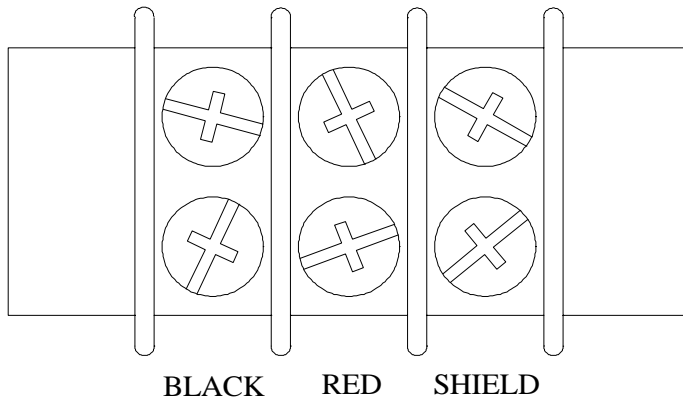

Figure 11 T1 WIRING DIAGRAM
3. Connect the control cable to terminal strip T1 (located to the left of the test jack S7) according to the diagram in figure 11.